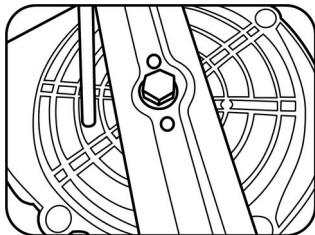

Fig. 7.1
- ❖ Secure the blade against movement using a screwdriver. Figure 7.1